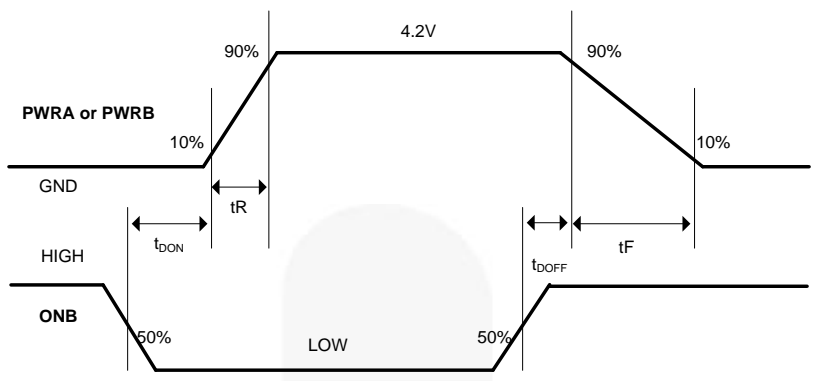

Figure 4. Dynamic Behavior
- $t_{DON}/t_{DOFF}/t_R/t_F$ are defined in Figure 4.